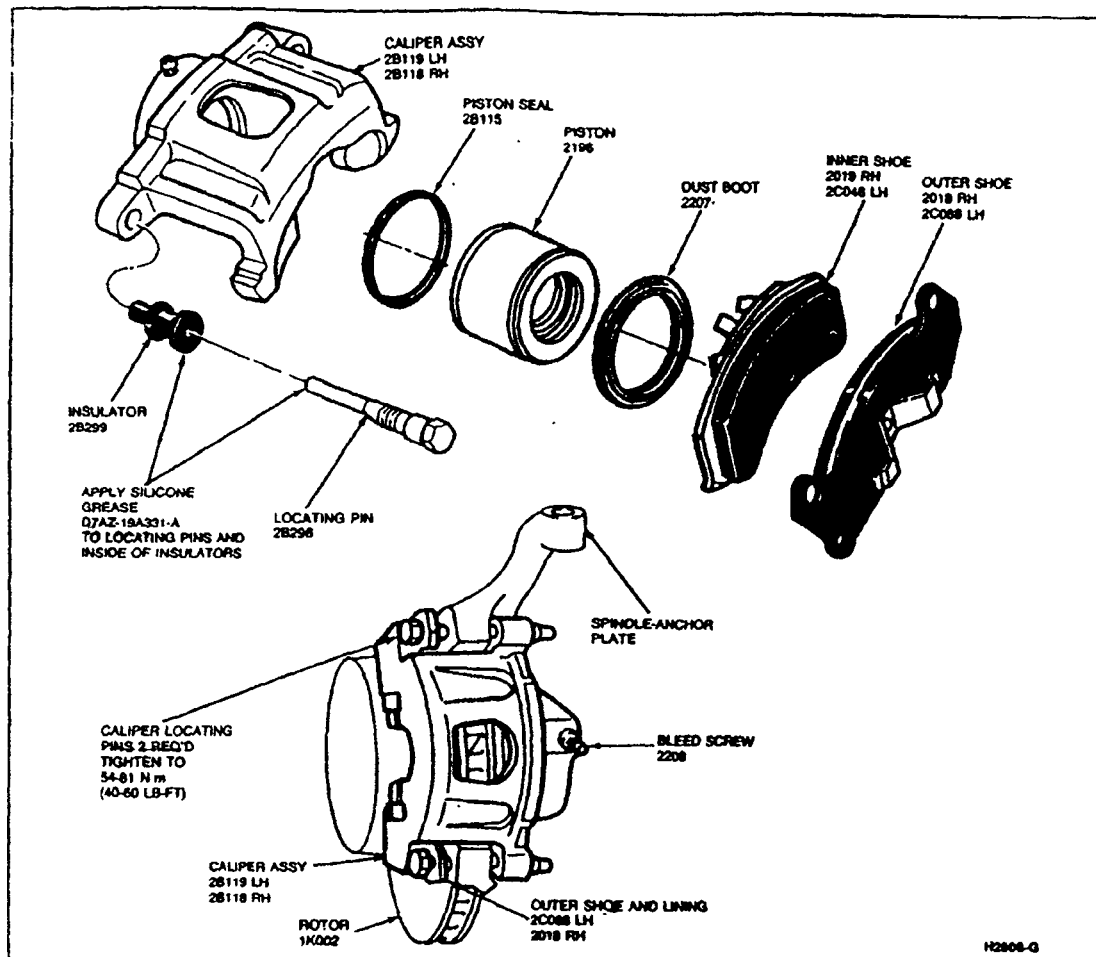

FIG. 2 Brake Components—Disassembly and Assembly
3. Remove the caliper locating pins (Fig. 2).